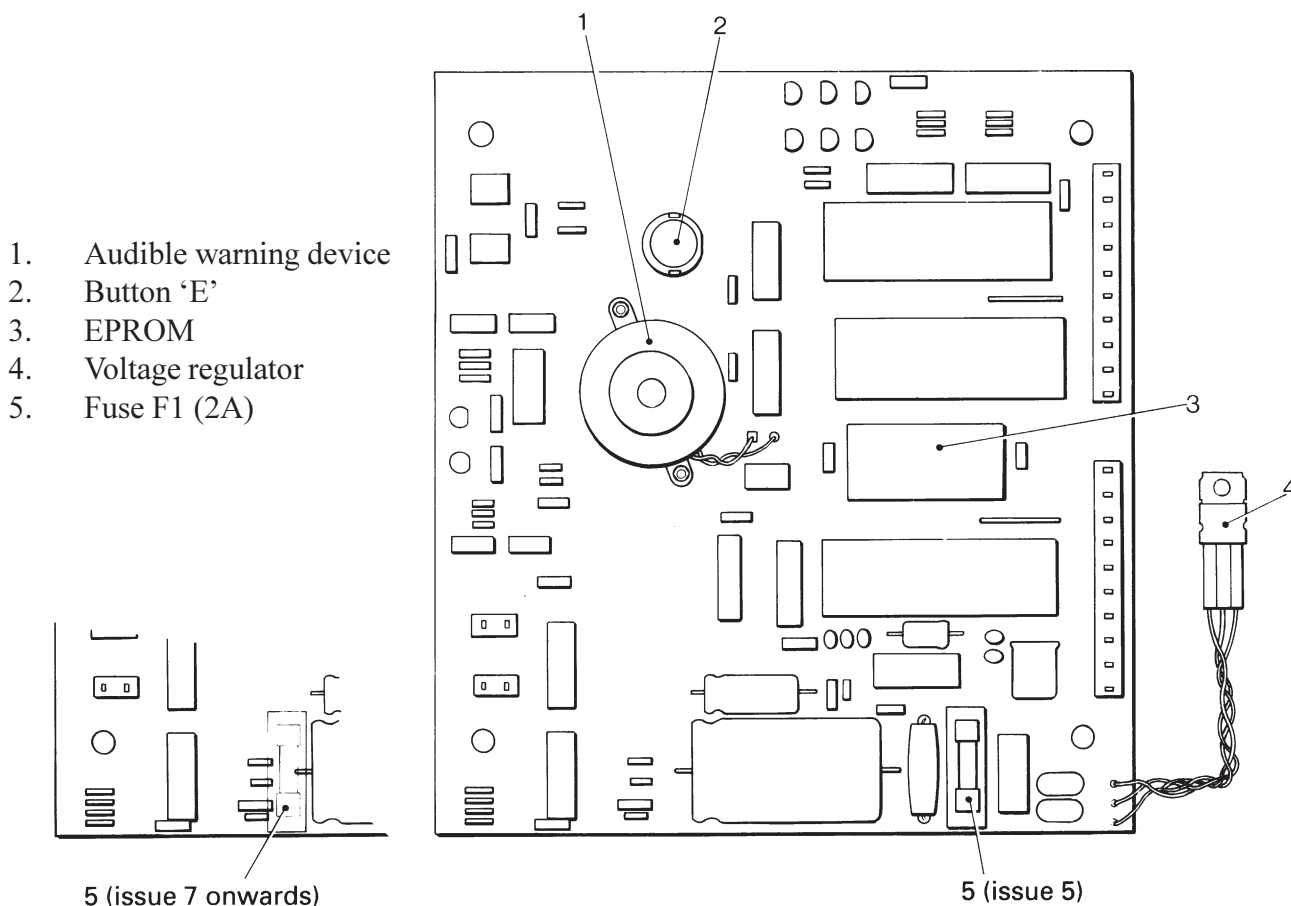

Fig. 5 Controller board (see also Fig. 4 items 15 and 16 for reverse side of board)
29. The controller board carries a fourth fuse (Fig. 5 item 5), to protect the secondary circuit of the transformer and parts of the controllers. To gain access to this fuse, remove the cabinet top cover (para 26). Refer to Technical Data for fuse type and rating.
VOLTAGE REGULATOR (Fig. 5 item 4)
- (1) Switch off the power switch.
- (2) With cover removed, push and hold in button E (Fig. 5 item 2)
- (3) With button E held in, switch on power again.
- (4) The display 'set up' will appear and a long 'bleep' will sound.